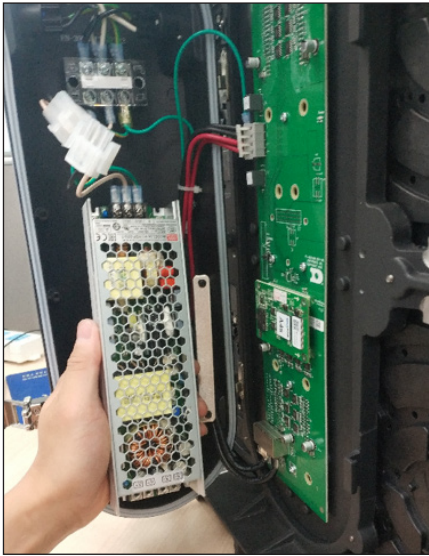

Figure 27: Remove Power Supply
5. Remove the power supply. Refer to **Figure 27**.